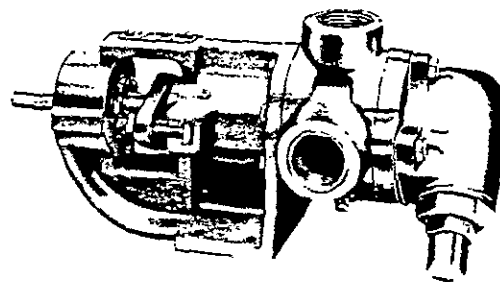

FIGURE 1
This manual deals only with Series 125 and 4125 Heavy-Duty Bracket Mounted Pumps. Refer to Figures 1 thru 19 for general configuration and nomenclature used in this manual. Pump specifications and recommendations are listed in Catalog Section 141, Series 125 and 4125 Heavy-Duty Bracket Mounted Pumps.
4. Relief valve adjusting screw cap must *always* point towards suction side of pump. If pump rotation is reversed, remove pressure relief valve and turn end for end. Refer to Figures 1, 2, 3 and 4.